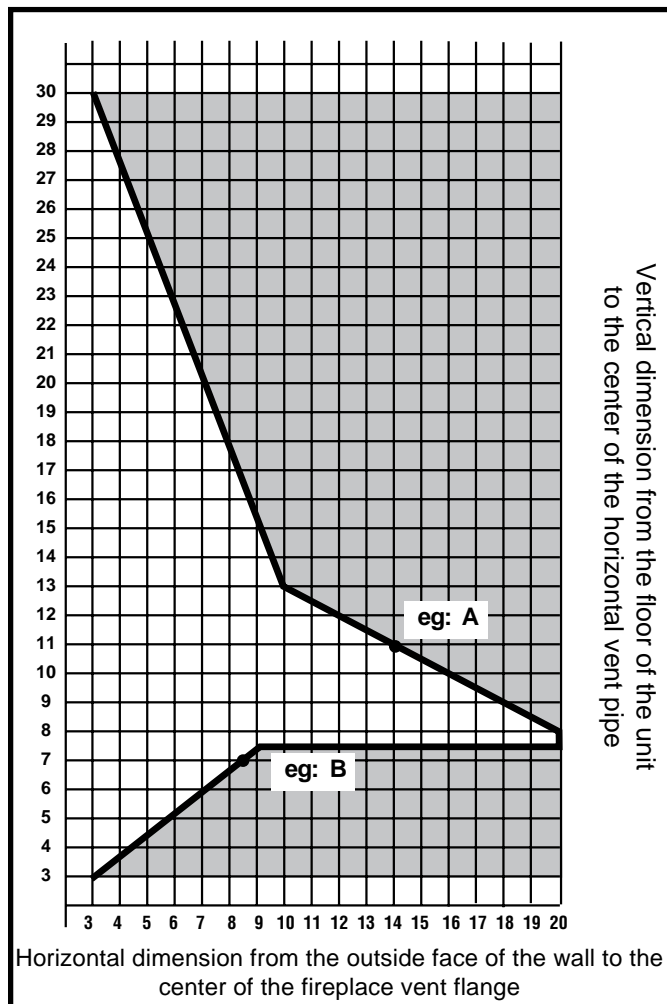

Fig. 18 Sidewall venting graph. (Dimensions in feet.)
1. Determine the height of the center of the horizontal vent pipe exiting through the outer wall. Using this dimension on the Sidewall Vent Graph (Fig. 18), locate the point intersecting with the slanted graph line.